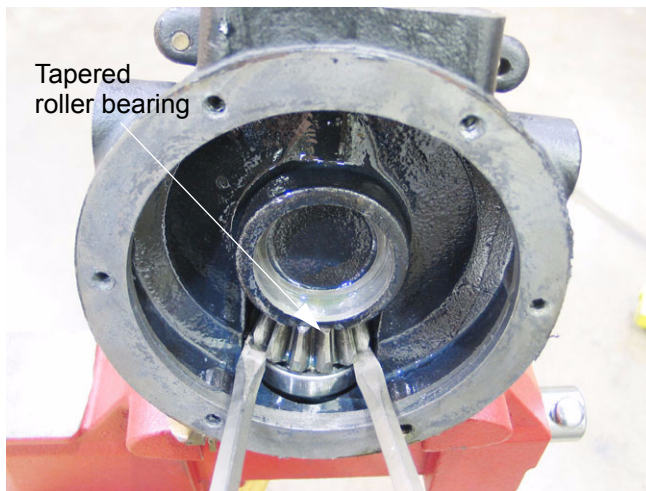

Figure 8.9
- 8.9. After the seals are removed, the tapered roller bearing can be lifted out. See Figure 8.9.